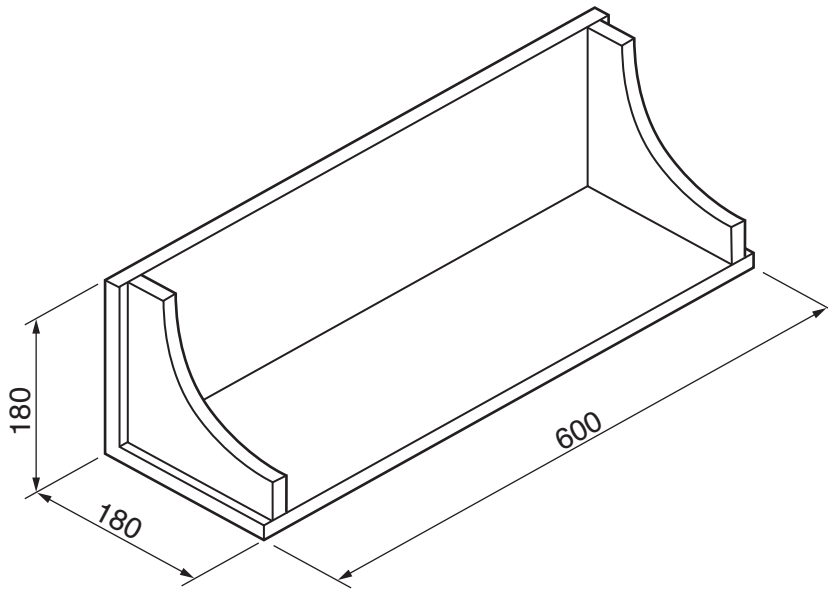

Fig. 11
- 13 Fig. 11 shows views of a shelf unit made from 15 thick MDF in a school workshop. The shelf unit will be made as flat-pack for self-assembly.